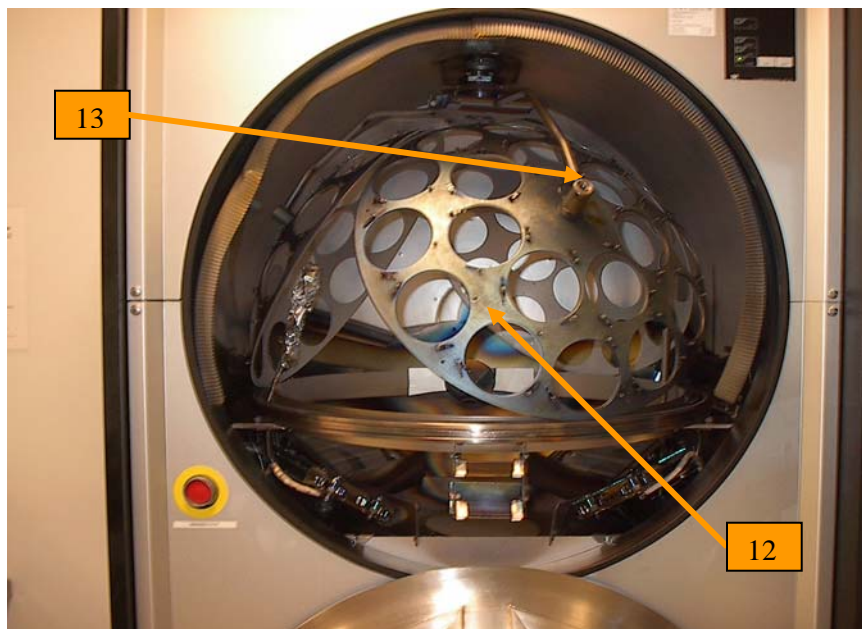

Figure 7
**Move** one of the planetary substrate holder slots (fig7. - 16) to the front by rotating the planetary system using the motor icon on the PC screen.
**Grab** the planetary substrate holder and arm assembly (fig7. – 12&13) simultaneously and fit them into the T-lock holder from a raised position and then lower the substrate holder gently onto the circular track.